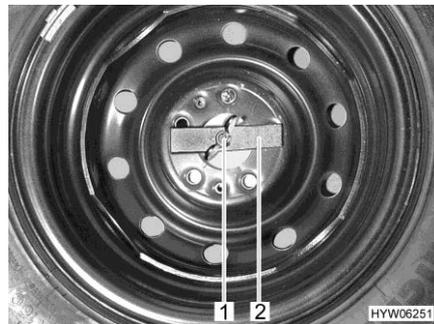

Fig. 235 Spare wheel in the rear storage space
- Loosen the wing nut (Fig. 235,1) and unscrew it.
- Remove the pad (Fig. 235,2).